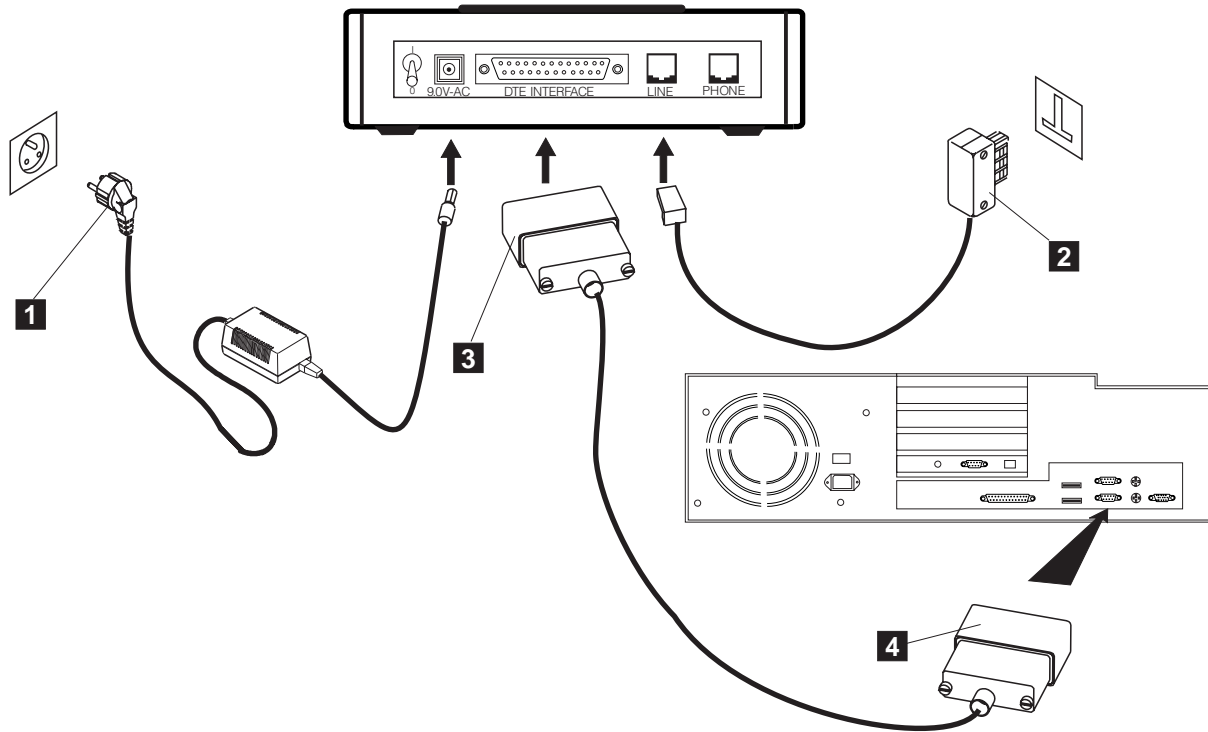

Figure 1-42. Connecting the NAS to the Hayes Modem
2. Refer to Figure 1-42 on page 1-36 and connect the cables as follows: